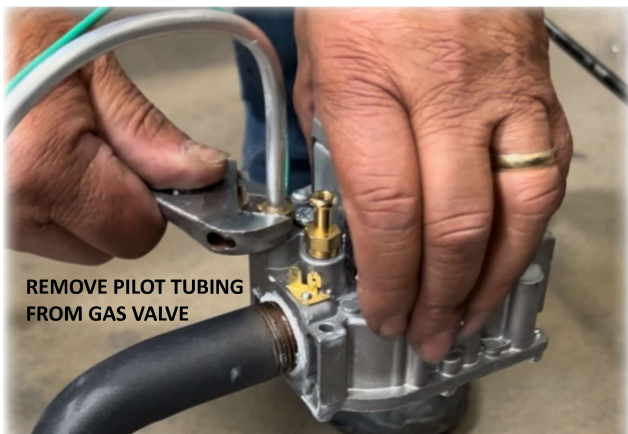

Figure 7. Remove Pilot Tubing from Gas Valve
3. Using an adjustable wrench, remove the Pilot tubing from the Gas Valve (See **Figure 7**).